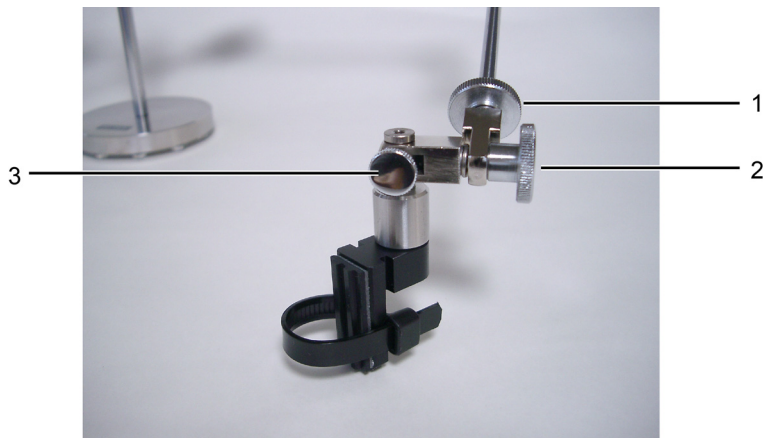
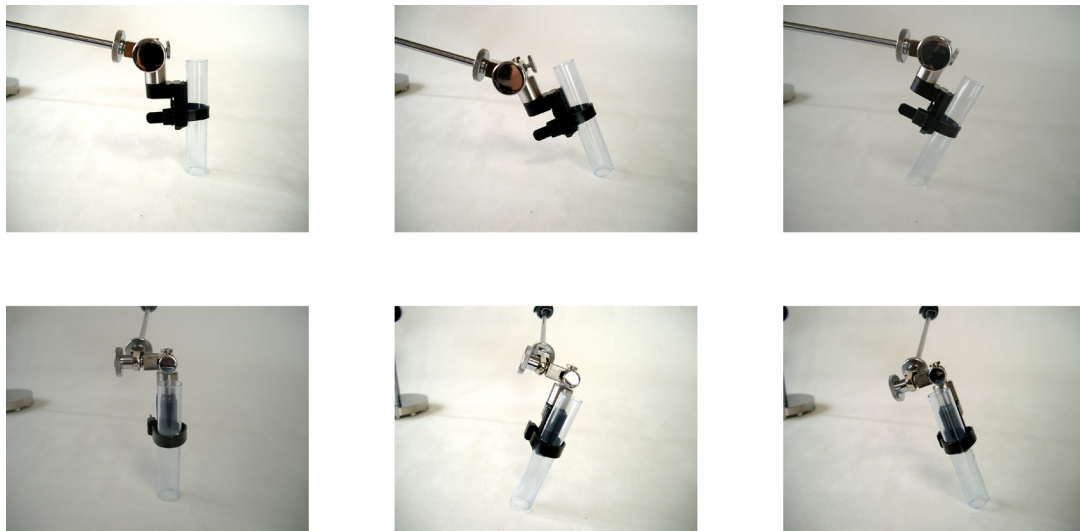

Figure 6 Location of the three angle-adjustment knobs
Figure 7 Series of pictures showing various rotation axes
The angle of your probe can be adjusted by loosening and then tightening three knobs on the positioner arm/universal holder. **Figure 6** shows the location of these three knobs. If knobs (1) and (2) are loose, there is a possibility that your probe may fall over. Make sure these knobs are securely fastened during any measurements. Knob (3) may be left loose when the probe is used vertically. If the probe is to be used with some slope against the board then it must be tightened as well.
Figure 7 on page 10 shows a series of pictures displaying some of the axes that can be rotated about by loosening and tightening the three knobs shown in **Figure 6**.